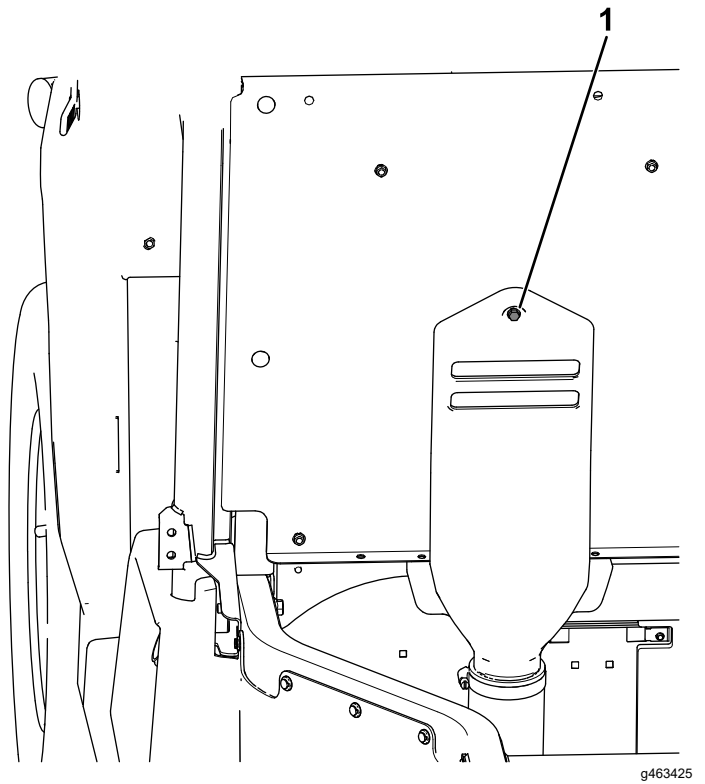

Figure 62
- B. Insert the captive bolt attached to the CVT-intake hood into the hole shown in the seat panel (Figure 62).